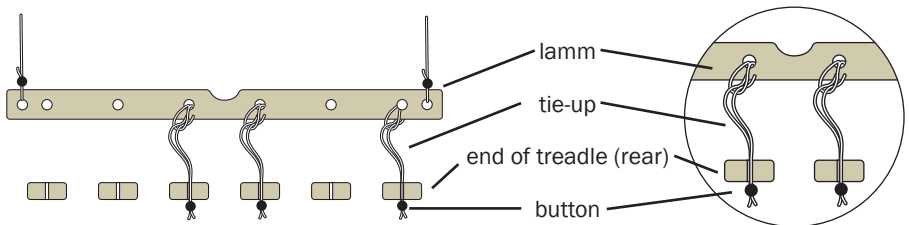

FIGURE 9: INSTALLING TIE-UP CORDS
19. There is one tie-up cord for each hole in the lamms. Put the loop end of a tie-up cord through each hole and pull the button end through the loop until the cord is secure against the lamm (Figure 9).
Tie the lamms to treadles by slipping a tie-up cord into the slot in the treadle (Figure 9). Work from the front lamm to the rear lamm for each treadle. After you have completed your tie-up, check each treadle by pushing it all the way to the floor and releasing it, making sure that the knob of each tie-up cord is up against the treadle and that each cord hangs straight down to the treadle.